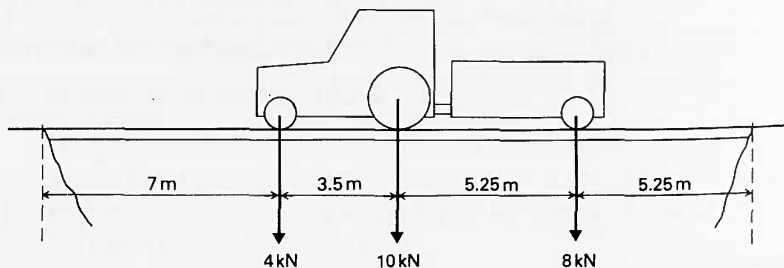

Figure A109
- 41(R)** A tractor and trailer move across a single span bridge supported at points 21 m apart. The axle loads and position of the vehicles are as shown in figure A109. What are the vertical forces at each of the supports caused by this load on the bridge?